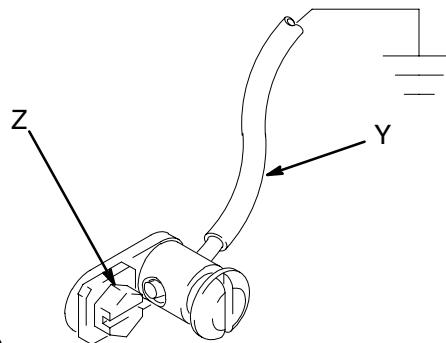

Fig 2 TI1052
Remove the ground screw (Z) and insert through eye of ring terminal at the end of ground wire (Y). Fasten ground screw back onto pump and tighten securely. See Fig 2. Connect the other end of the wire to a true earth ground. Order Part No. 222011 Ground Wire and Clamp.